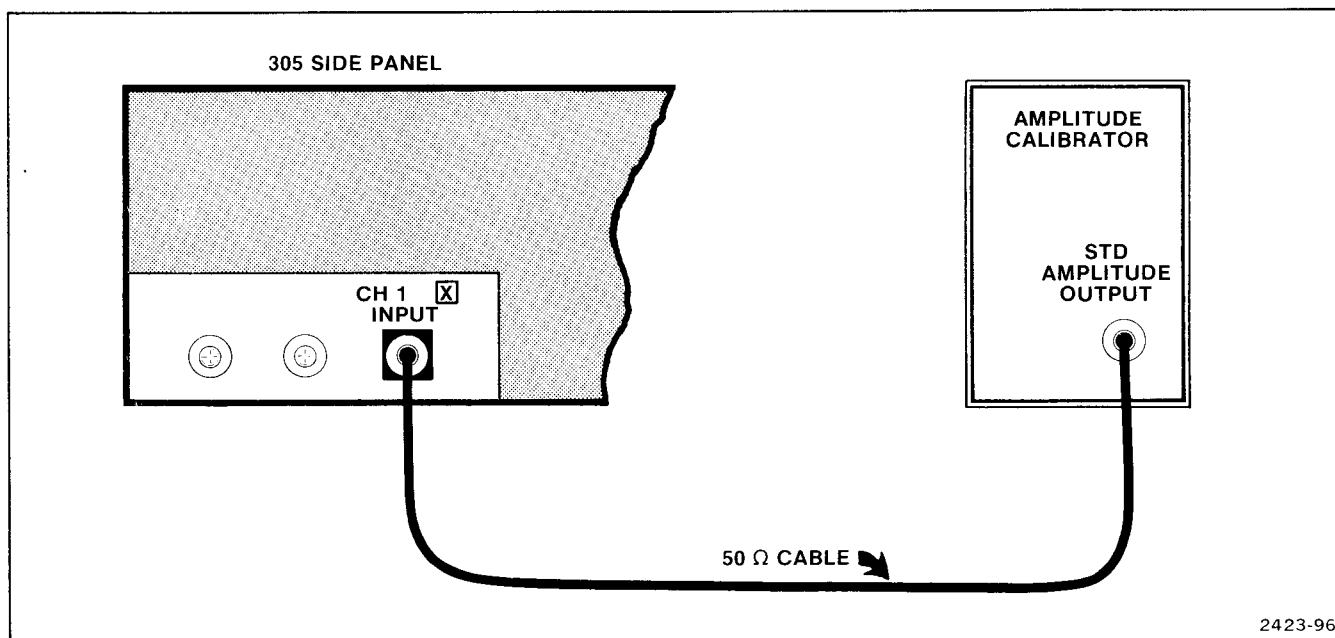

Fig. 6-8. X-axis gain test setup.
- b. Connect an amplitude calibrator as shown in Fig. 6-8 and set the standard amplitude output for 20 mV amplitude.